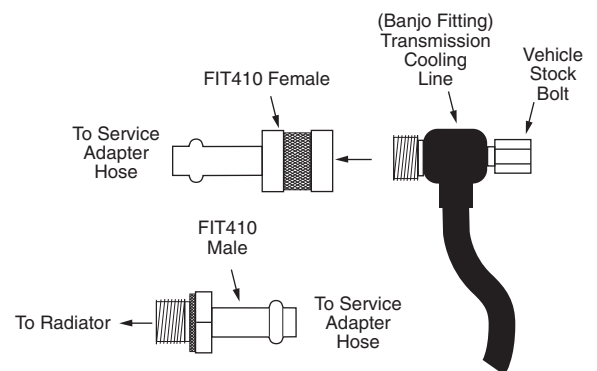

Figure 63. FIT410 Installation On Saab Vehicles
2. Install the female half of FIT410 (see Figure 63) onto the hollow bolt along with the washers.